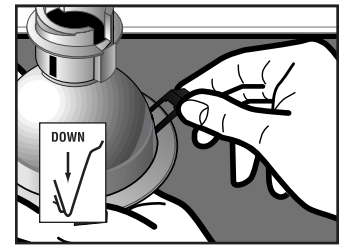

Figure 3
1. Install 3 mounting springs to each fixture as shown and press in tightly (Fig. 3).